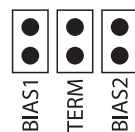

Figure 5 - INT and NET jumpers
- **INT:** These are the jumpers for the bias and terminating resistors used for the interface communication bus. See the Prolon network guide for information about bias and terminating resistors. (See Figure 5)
- **NET:** These are the jumpers for the bias and terminating resistors used for the network communication bus. See the Prolon network guide for information about bias and terminating resistors. (See Figure 5)